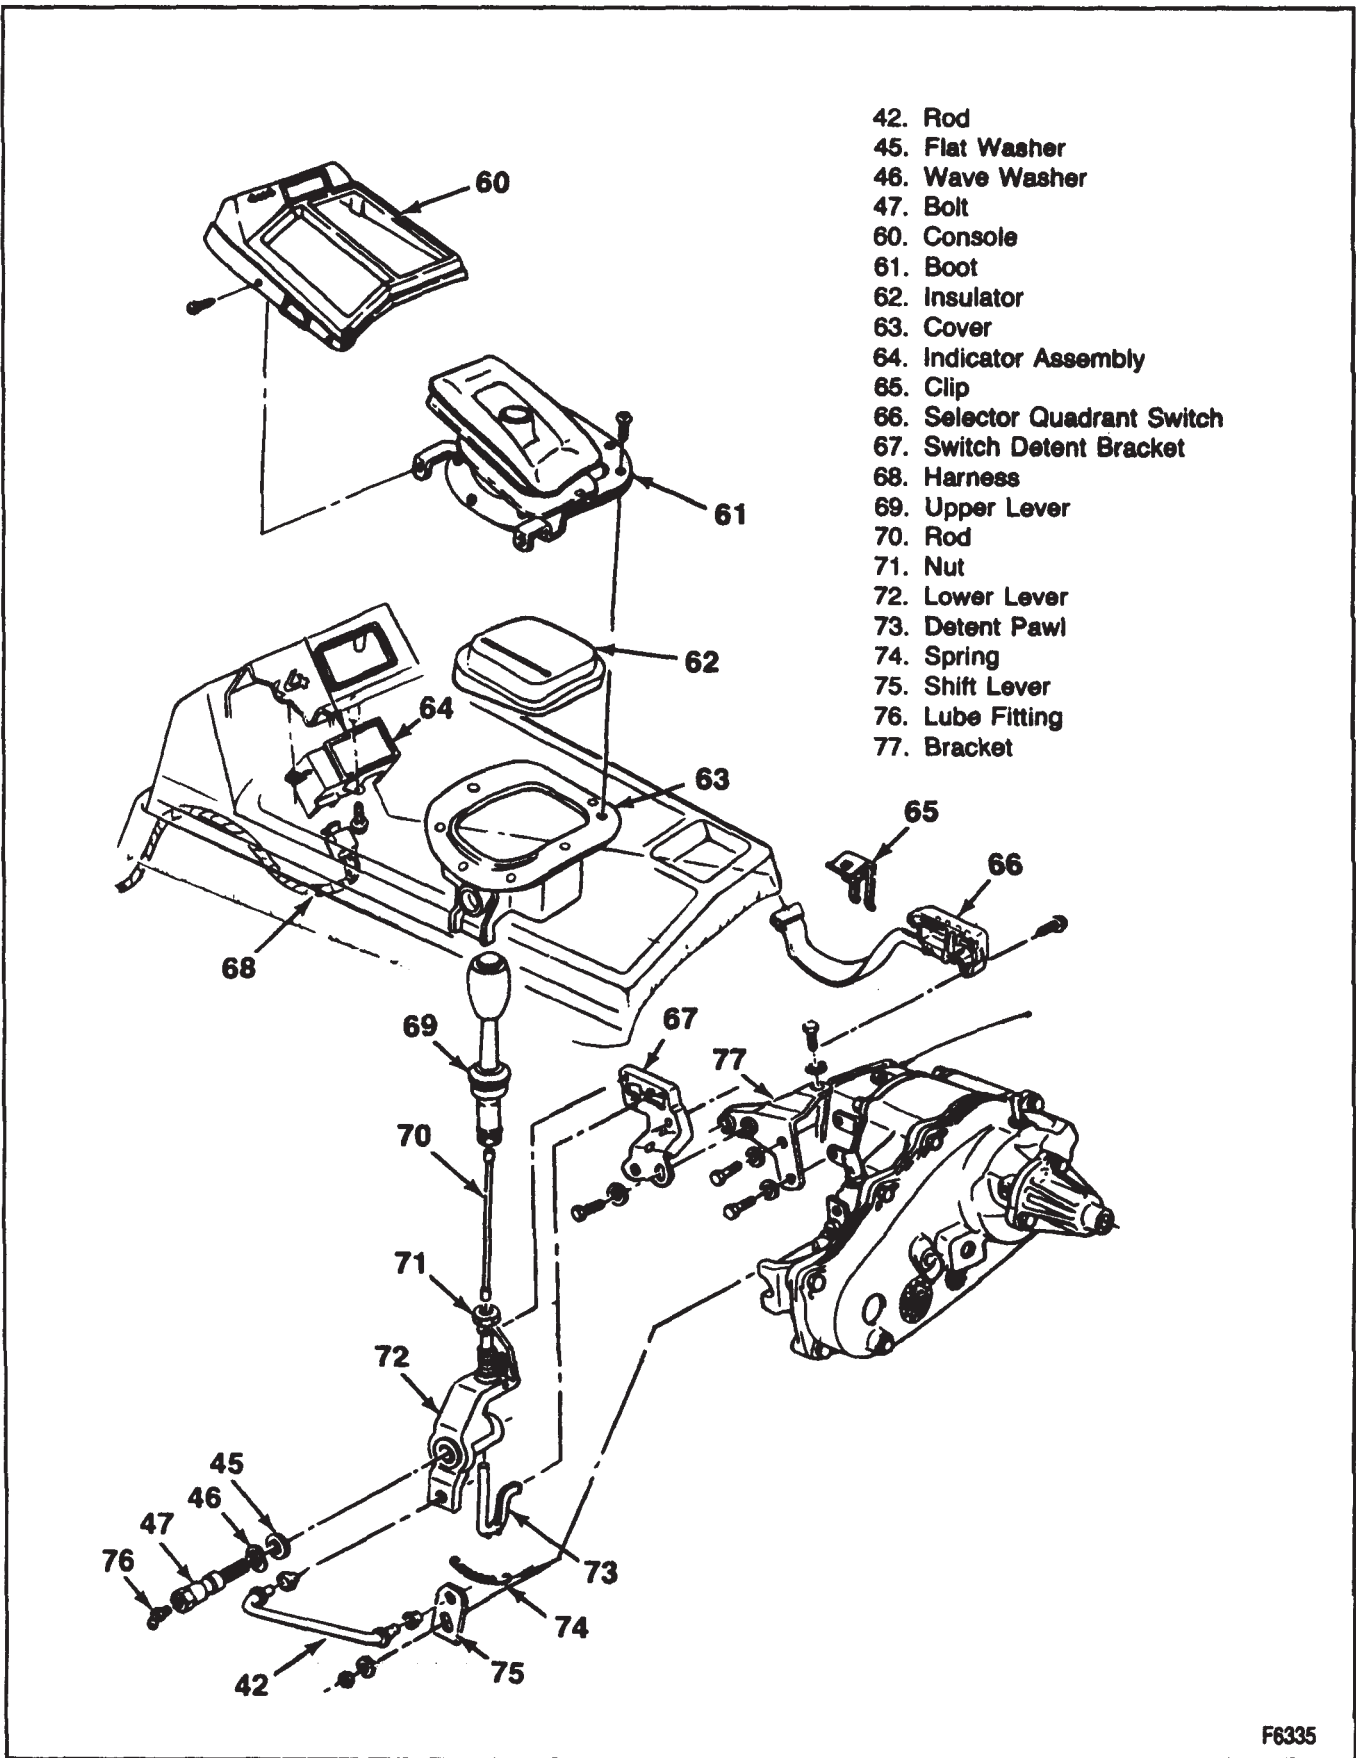

Figure 10—Shift Lever and Components
**↔** Remove or Disconnect (Figure 10)
2. Console (60).
3. Boot (61). Slide the boot up the shift lever.
4. Nut (71).
5. Upper lever (69).
6. Selector quadrant switch (66) and switch detent bracket (67).
7. Rod (42) at the lower lever (72).
8. Bolt (47), wave washer (46) and flat washer (45).
9. Lower lever (72).
**↔** Install or Connect (Figure 10)
1. Lower lever (72).
4. Selector quadrant switch (66) and switch detent bracket (67). Leave the bolts finger tight.
5. Upper lever (69) and nut (71).
- Screw the upper lever (69) in until the detent pawl (73) clears the switch detent bracket (67). Then screw in 1-1/2 additional turns. Tighten nut (71) to 24 N.m (18 ft. lbs.).
6. Boot (61).
7. Console (60).
**Remove or Disconnect (Figures 10 and 11)**
2. Console (60) and boot (61). Slide the boot up the shift lever.
3. Switch harness at the indicator assembly (64) and clip (82).
4. Clip (65).
5. Screws (80).
6. Switch (66).
**Install or Connect (Figures 10 and 11)**
1. Switch (66) to the bracket (67).
- Make sure the detent pawl (73) engages the switch contact carrier.
- Route the harness under the clip (82).